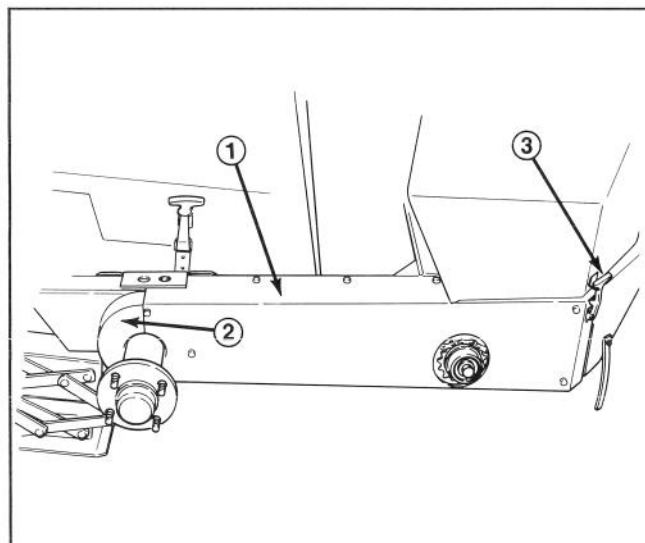

Figure 6
3. Slide chain guard onto chassis aligning mounting holes (Fig. 6).
5. Slide sprocket guard into position aligning mounting holes. Front tab to be positioned under chain guard (Fig. 6).
6. Secure rear of sprocket guard to chassis with a 1/4-20x3/4" lg. self tapping screw. (Fig. 6).
7. Secure front of sprocket guard and (4) remaining chain guard mounting holes to chassis with (5) 1/4"-20x3/4" lg. self tapping screws. Tighten all fasteners.
8. Hook latch securing clutch cover to chain guard (Fig. 6).